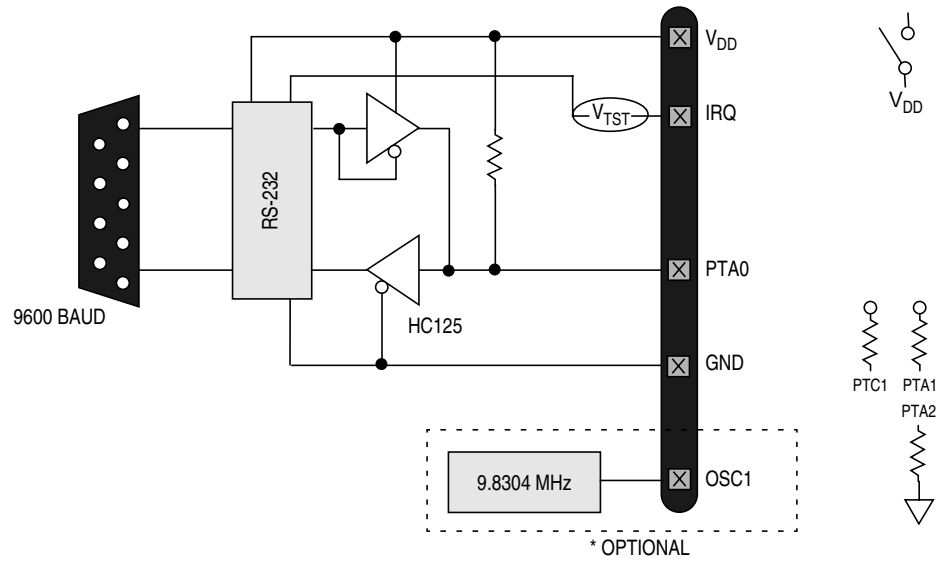
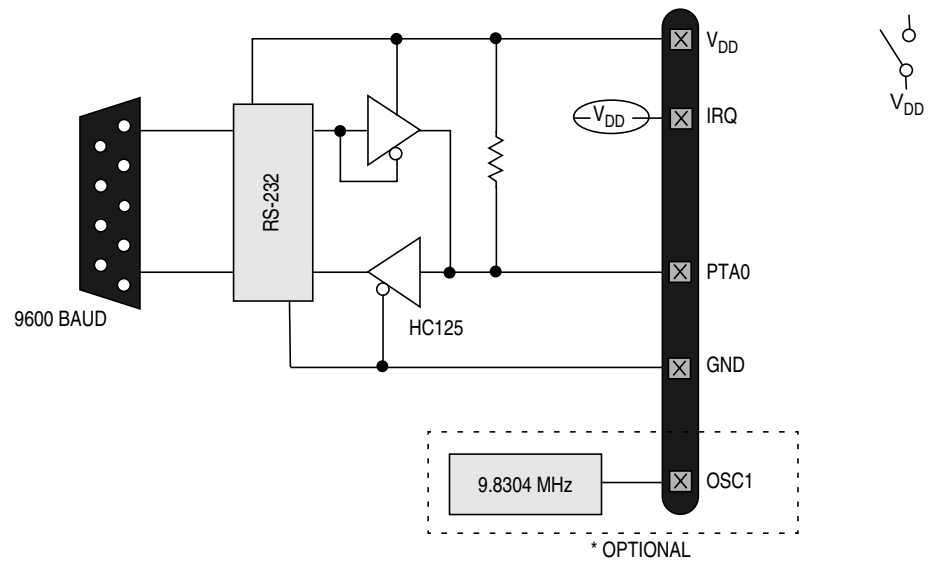
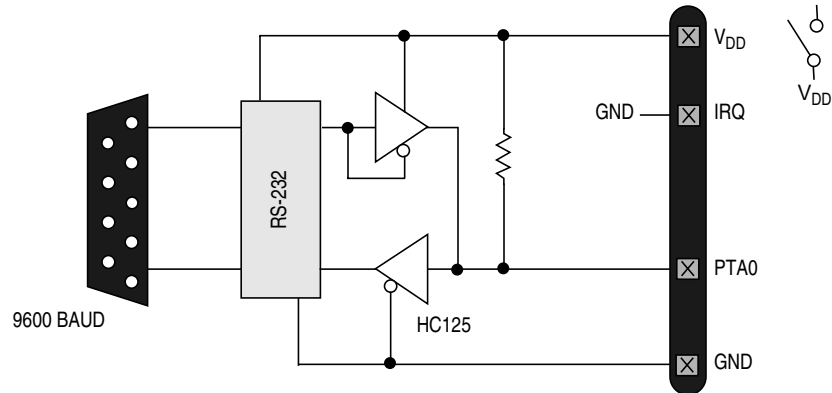

Figure 4. MC68HC908SR12 Standard Monitor Mode (9.8304 MHz)
Figure 5. MC68HC908SR12 Forced Monitor Mode (9.8304 MHz)
Figure 6. MC68HC908SR12 Forced Monitor Mode (32.768 kHz)
- c. The external communications circuit. Also needed is a 5-volt power source to power this circuit (see Figure 4, Figure 5, and Figure 6).
2. Connections (see Figure 4):
- a. Blank part with oscillator value from **Table 2** (divide-by-4 options). See **Figure 5**. If the crystal oscillator in the target application is not a value listed in **Table 2**, it is possible to “overdrive” the target crystal with an external clock for the short duration of the programming sequence. An example of this would be overdriving a target’s 32.768-kHz crystal with a 9.8304-MHz external clock.
- b. Blank part with a 32.768-kHz oscillator. See **Figure 6**.